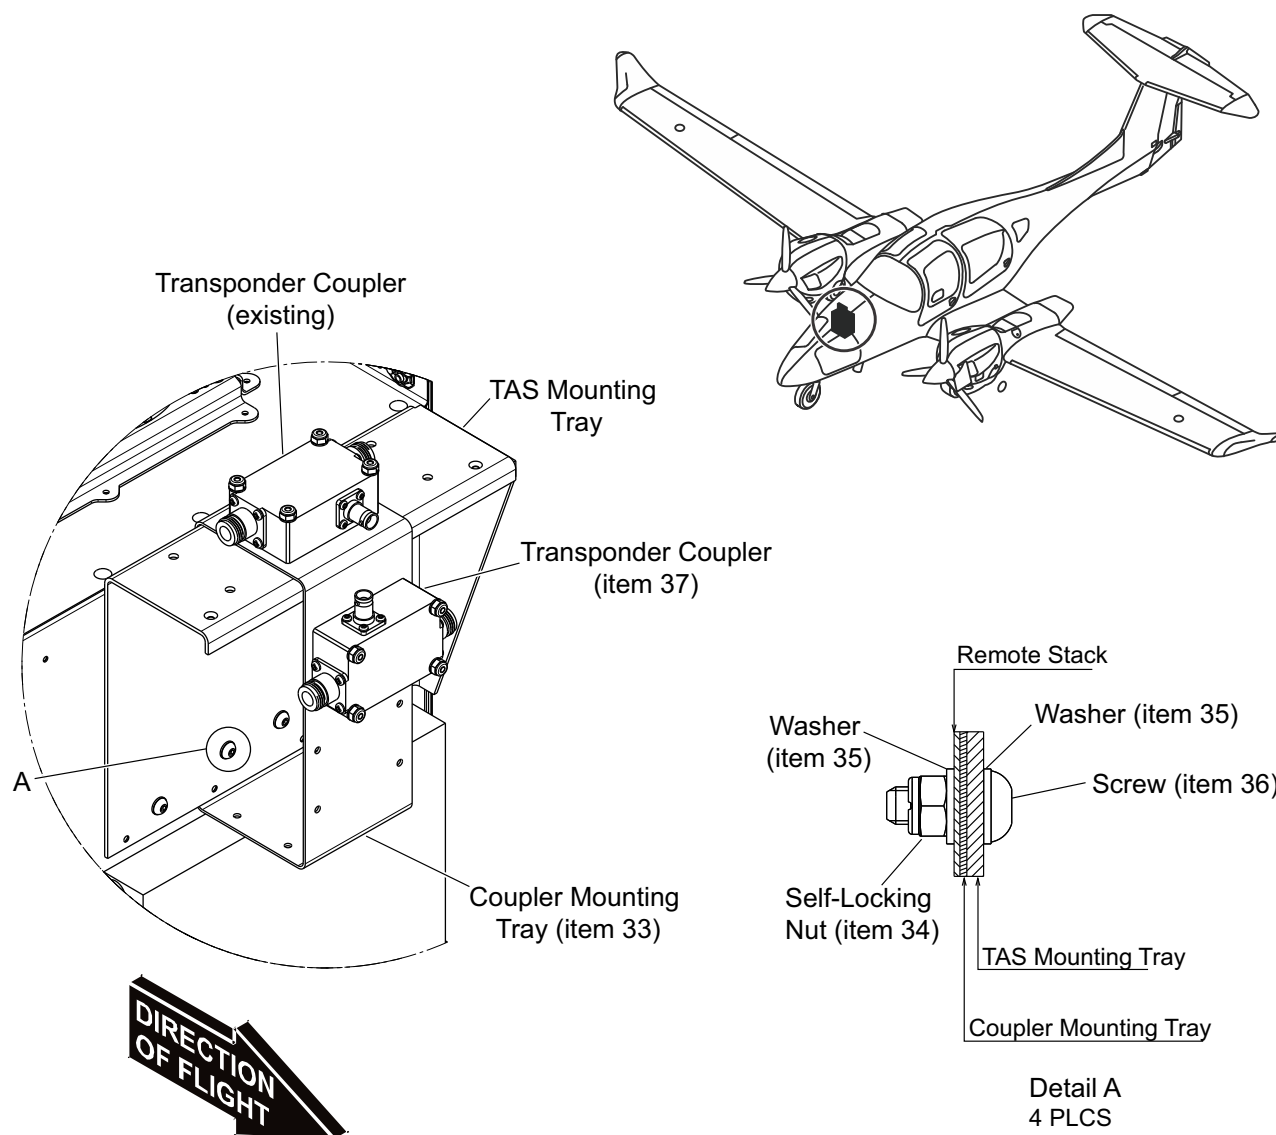

Figure 8.
- 9.3. Install the screws (item 36), washers (item 35), and self-locking nuts (item 34) which attach the coupler mounting tray (item 33). Refer to Figure 8.